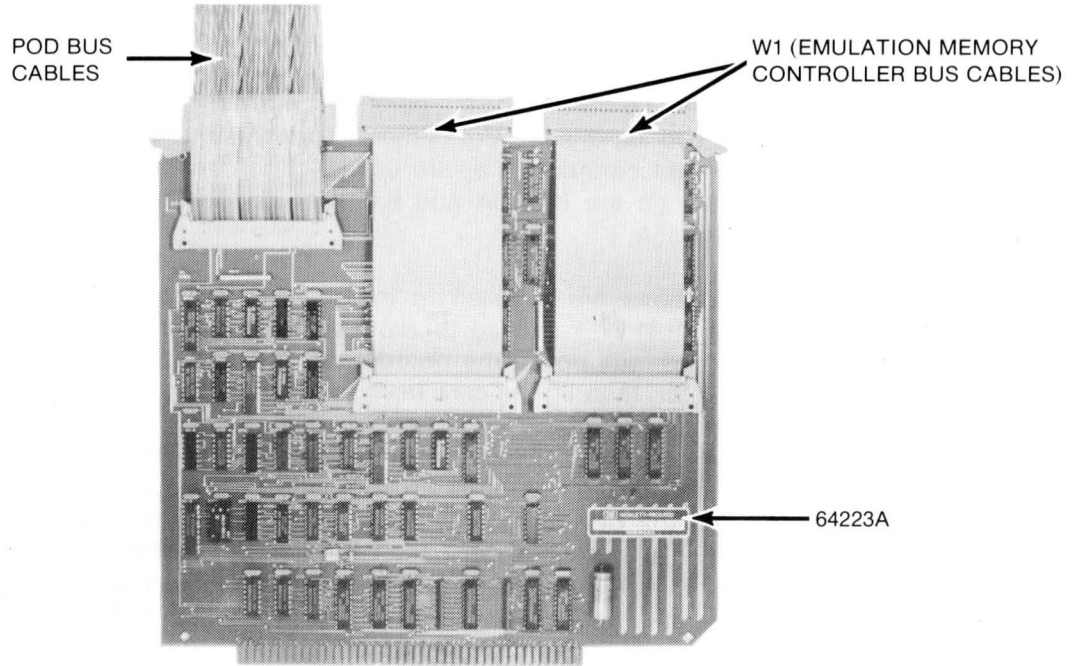

Figure 2-3. Memory Control Bus Cable Connection
- d. The emulation memory controller bus cables each have a 50 pin card edge connector on one end and a 50 pin block connector on the other end. The block connectors are to be connected to the matching block connectors at the middle center and right center of the emulation control card. See figure 2-3. Align pin 1 of the male and female connector sets and join the two block connectors for each cable.
- e. Now the Emulator Pod is to be connected to the Emulator Control Card. (Refer to figure 2-3.) Two multi-colored ribbon cables within a shield braid assembly are used to connect the pod to the card. One cable is terminated in a female card-edge connector; the other is terminated in a female socket type connector. Pin 1 of each connector is indicated by a triangle molded into the connector. The mating male connectors are at the top left corner of the Control Card (as you face the component side of the board). Pin 1 of the card edge connector is indicated by a "1" etched on the board surface; Pin 1 of the block connector is indicated by a triangle molded into the connector block. Note that the block connector on the board is a latching type. Verify that the connector is open (latching tips spread towards the outside edges of the board) before installing the emulator pod cables. Making sure to align pin 1 of the male and female connectors, connect the pod to the control board by joining the two connector sets. When installing the block connector, push down on the female connector until the latching tips snap over the top of the connector.